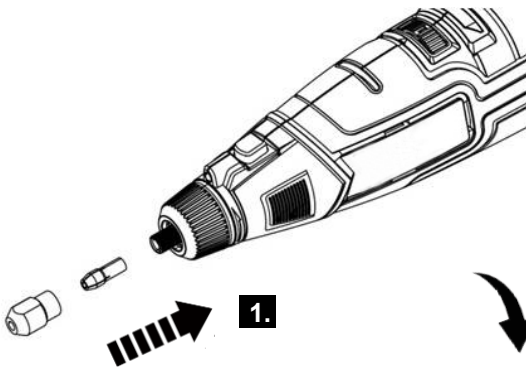

Fig. 3
> Insert the collet (9) into the shaft (28) and then screw the tensioning nut (5) onto the shaft (28). Press the shaft lock button (7) down if necessary while rotating the tensioning nut (5) (Fig.3&4) .